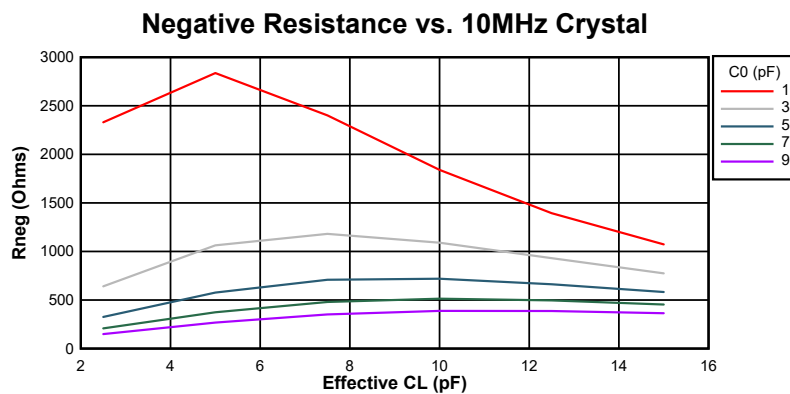
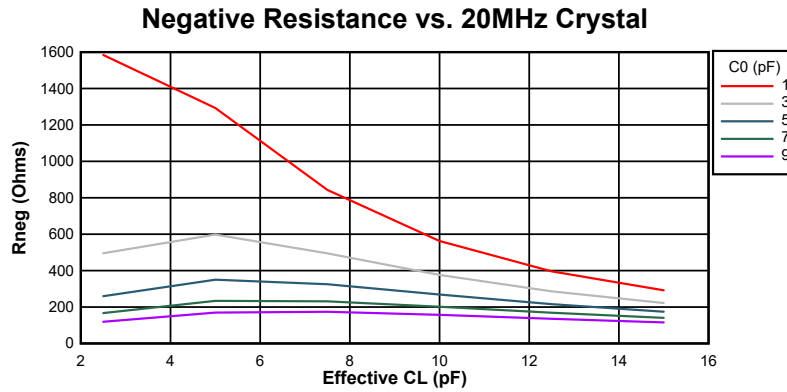

Figure 6-16. Negative Resistance Variation at 10 MHz
Figure 6-17. Negative Resistance Variation at 20 MHz
Figure 6-16 and Figure 6-17 show the variation between negative resistance and the crystal components for this device. As can be seen from the graphs, the crystal shunt capacitance (C0) and effective load capacitance (CL) greatly influence the negative resistance of the electrical oscillator. Note that these are typical graphs; so, refer to Table 6-5 for minimum and maximum values for design considerations.